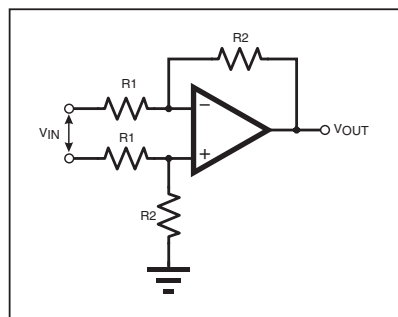
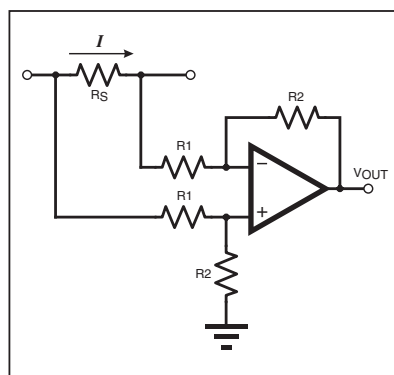
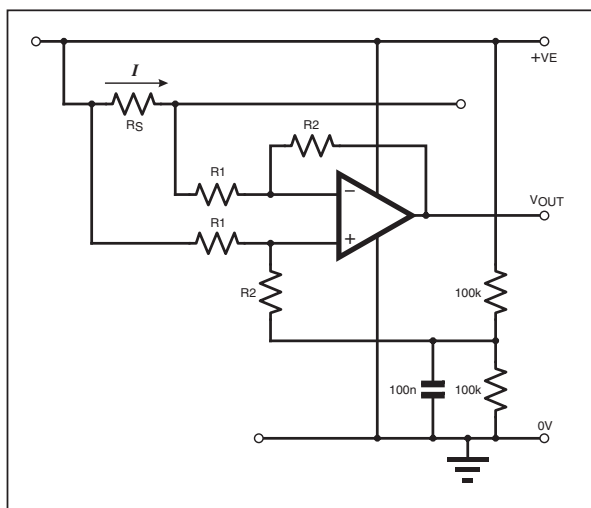

Fig.1. Differential amplifier (split supplies).
Fig.2. Principles of “high side” current measurement.
Fig.4. Circuit to illustrate common input voltage when using single supply differential amplifier for high side current measurement.
The circuit to which David refers is an op.amp differential amplifier circuit, as shown in Fig. 1. We can use this circuit to measure current (I) by amplifying the voltage dropped across a known (and usually small) sense resistance, R_S , as shown in Fig. 2.
At this point we must also remind you that the common mode rejection ratio (CMRR) of the circuit in Fig. 1 is poor, or, more specifically, it is highly dependent on
The circuit shown in Fig.1 can be modified by using the "half-supply rail generator" we showed last month (p.790) to generate an "earth" to connect to the earthy end of resistor R2 (i.e. the point indicated by the earth/ground symbol in Fig.1). See Fig. 4 for an example of the kind of circuit arrangement you might try.
One aspect you have to watch out for is the common mode input range of the op.amp as illustrated in Fig. 4. The high side sense resistor R_s has one terminal connected to the power supply rail, and by virtue of the small voltage drop essential to prevent this resistor interfering with the measurement, the other side of R_s will be at almost the same voltage.